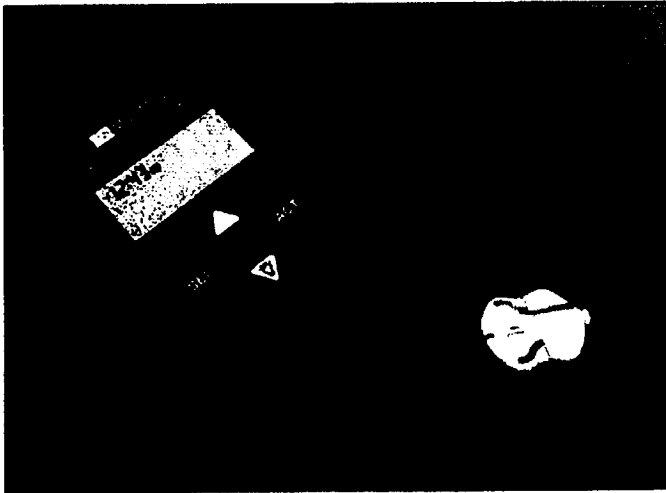

FIGURE 1 - 1: Continuous Glucose Monitoring System
The CGMS has four (4) primary components (See Figures 1 - 2 and 1 - 3):
**1. Continuous Glucose Monitor** - a portable, pager-sized device that serves as a computer operated data collection unit for the Glucose Sensor. The Monitor acquires and stores electronic signals from the Glucose Sensor, and converts these signals into clinical glucose values which are also stored. Using the Com-Station, stored signals and glucose values in the Monitor can then be downloaded to an external personal computer (PC) for analysis. The Monitor requires two (2) off-the-shelf AAA alkaline batteries, which should provide adequate power for two (2) months under conditions of normal use.
**2. Cable** - a special wire with two (2) connectors that provide a seamless, continuous transmission of electronic signals from the Glucose Sensor to the Monitor.